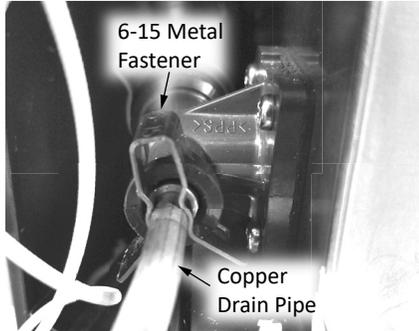

Figure 46: Copper Drain Pipe.
- 19 Disconnect the 6-15 metal fastener from the small copper drain pipe (# 465). Set the fastener aside for re-installation. Figure 46.
37 Reconnect the small copper drain pipe (# 465). Use the provided O-ring. Inspect the O-ring, if any cuts or nicks are present replace it immediately. Use the 6-15 metal fastener removed earlier. See Figure 46 on page 52.
38 Reconnect the copper pipe (# 468) to the primary heat exchanger outlet and the water outlet tee. Inspect the O-rings, if any cuts or nicks are present replace them immediately. Use the 16-25A metal fasteners removed earlier. See Figure 46 on page 52.